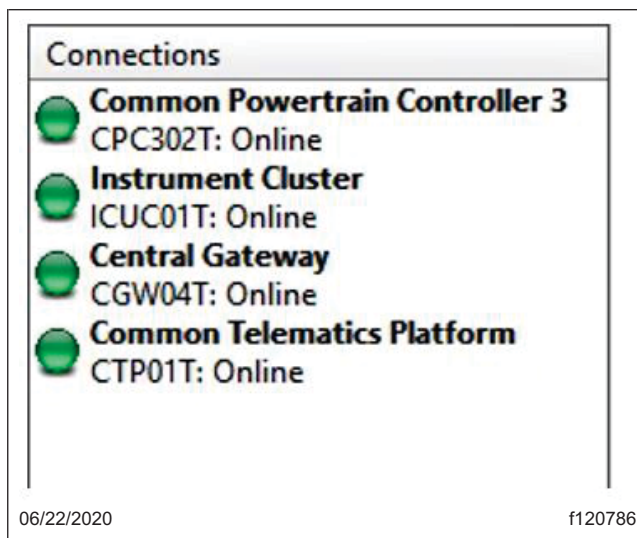

Fig. 1, DiagnosticLink Connections Panel
7. Wait until all four controllers are fully connected and the connection indicators turn green. See Fig. 1.